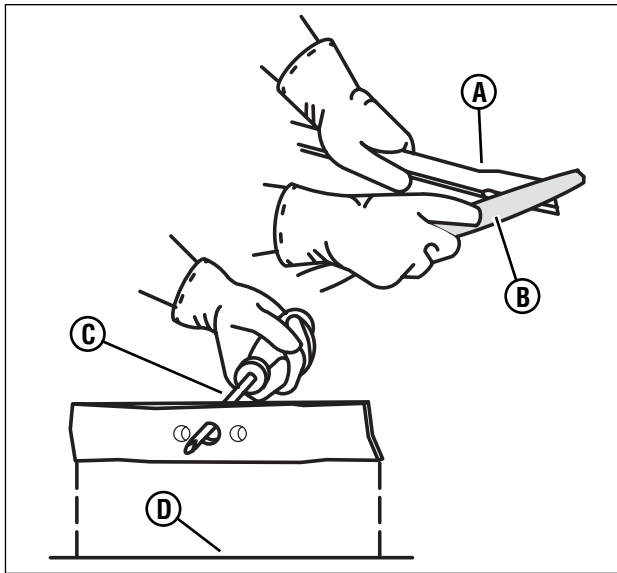

Figure 23: Sharpening the blade
4. Sharpen the blade (**A**, **Figure 23, next page**) with a file (**B**). Make sure you keep the original beveled cutting edge.